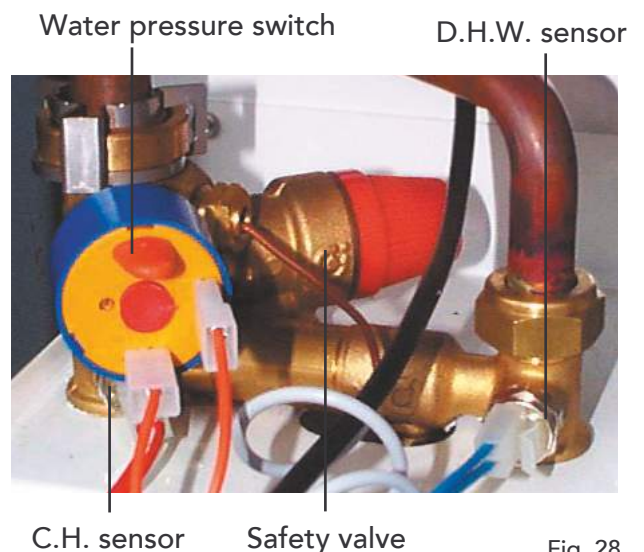

Fig. 28
**7.07 D.H.W. temperature sensor or Central Heating Temperature Sensor (fig. 28)**
- Identify the sensor from figure 28
**7.08 Water Pressure Switch (fig. 28)**
- Identify the switch from figure 28
**7.09 Safety Valve (fig. 28)**
- Identify valve from fig. 28